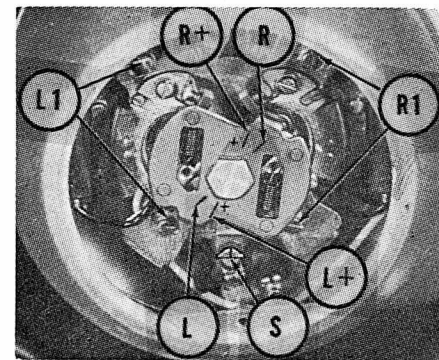

Fig. S4-2—View of timing marks for T10 model. Refer to text for adjustment procedure.
**MODEL T10.** Refer to Fig. S4-2. Ignition point gap should be 0.3-0.4 MM (0.012-0.016 in.). Full advanced timing (points just open) should occur at 30 degrees BTDC and retarded timing at 7 degrees BTDC. Piston position is 0.27 MM (0.0166 in.) BTDC fully retarded, advanced is 4.76 MM (0.188 in.) BTDC. Timing marks (L & L+) are painted red for left cylinder, marks (R & R+) are painted blue for right cylinder. Retarded timing should occur when plain mark (L or R) is aligned with mark (S) on stator, advanced timing marks are at L+ and R+. Ignition timing is changed by moving breaker plate after loosening screws (L1) for left cylinder, (R1) for right cylinder.